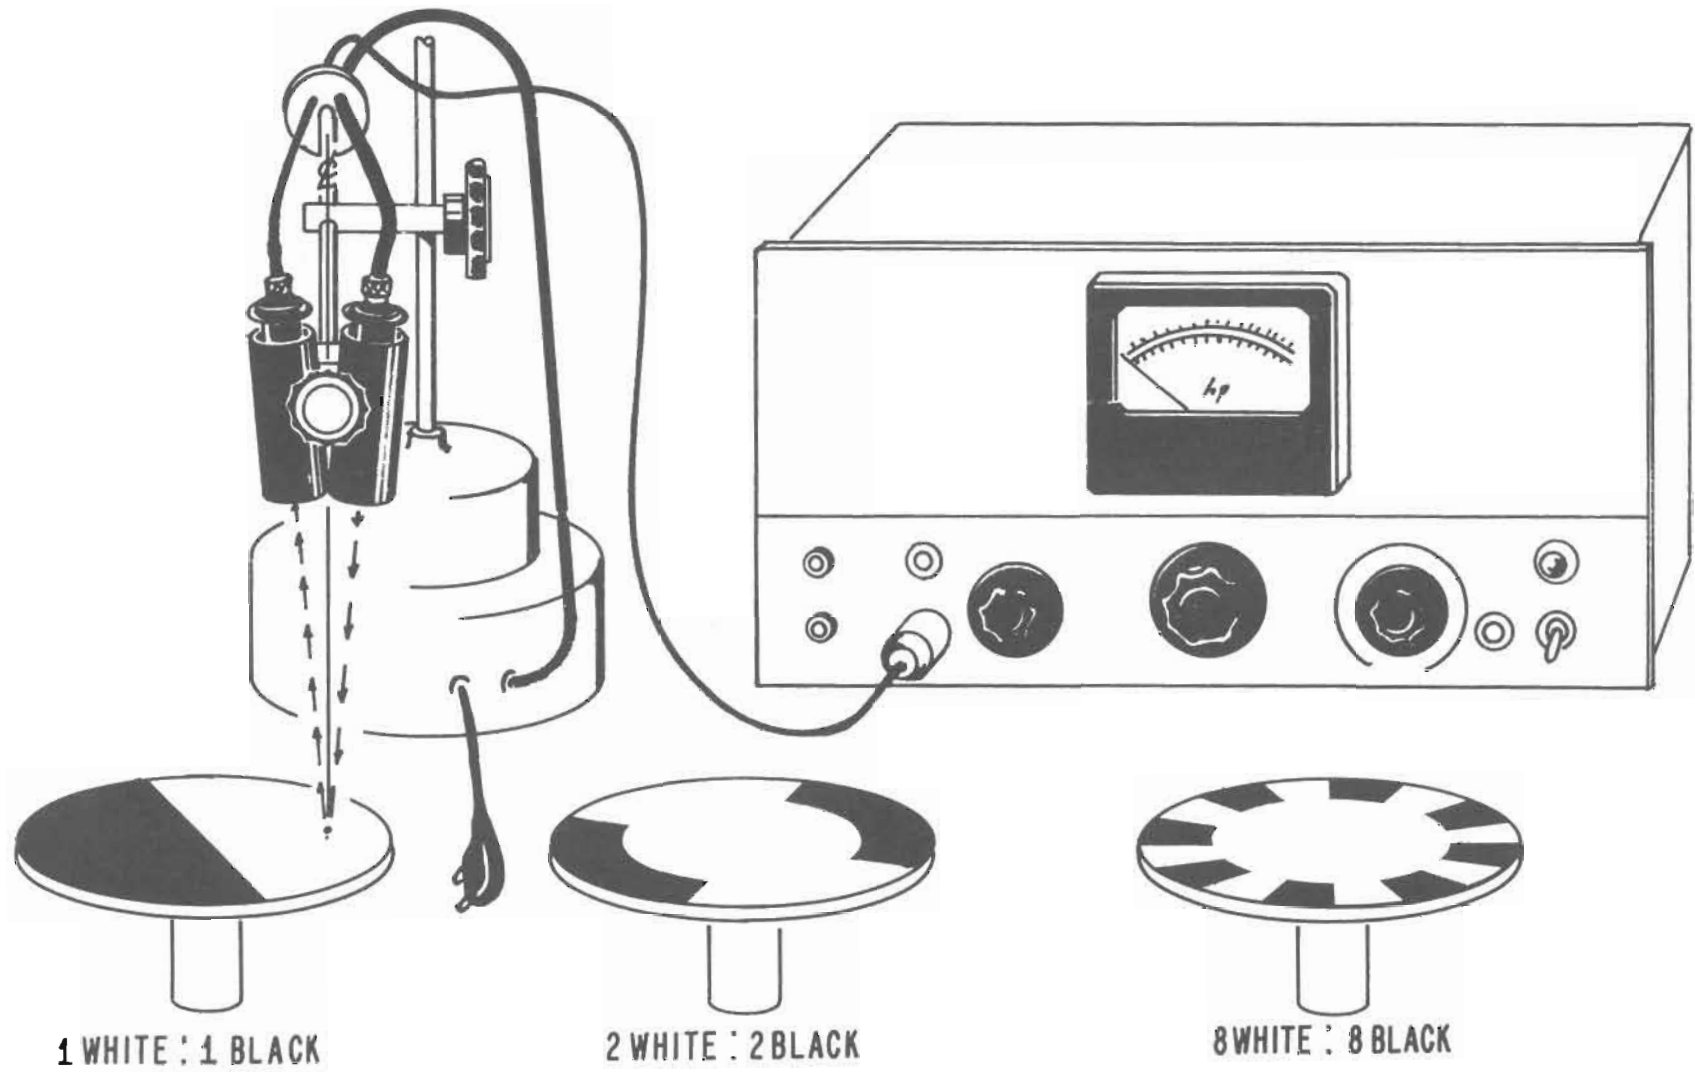
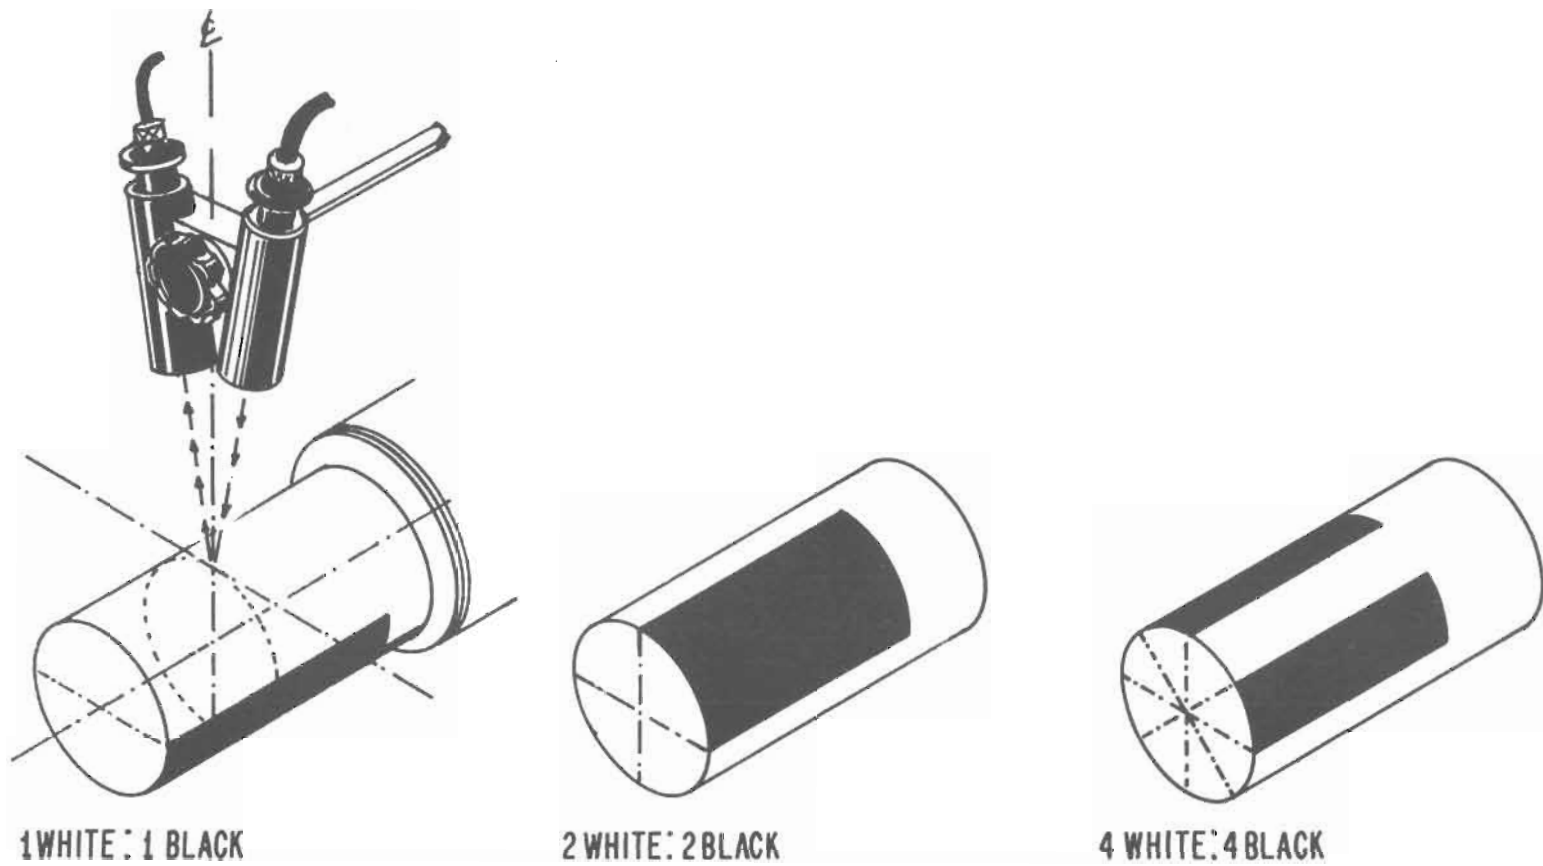

Fig. 4. Model 506A and Target Prepared on Flat Surface
Fig. 5. Model 506A and Target Prepared on Curved Surface of Rotating Part
Preparation of Target (Figs. 4 and 5) - When using a Model 506A Optical Tachometer Pickup, the rotating part under measurement must be prepared by suitable means to have alternating light-reflecting and light-absorbing surfaces of approximately equal size. For best results, the reflecting and absorbing surfaces each should have an area of at least 3/4 inch by 3/4 inch square.
The location of the target on the moving part generally will be governed by (1) availability of space suitable for preparation of a target, (2) accessibility, and (3) sufficiency of space for setting up the Model 506A for use with the target. The target may be prepared either on the flat surface of the rotating part as shown in Fig. 4, or on the curved surface as shown in Fig. 5. To measure speeds up to 300,000 rpm, when the target is prepared on the curved surface of the shaft, the diameter of the shaft must be at least 1/2 inch. Speeds of shafts of less than 1/2 inch diameter may be measured, but over a narrower speed range.